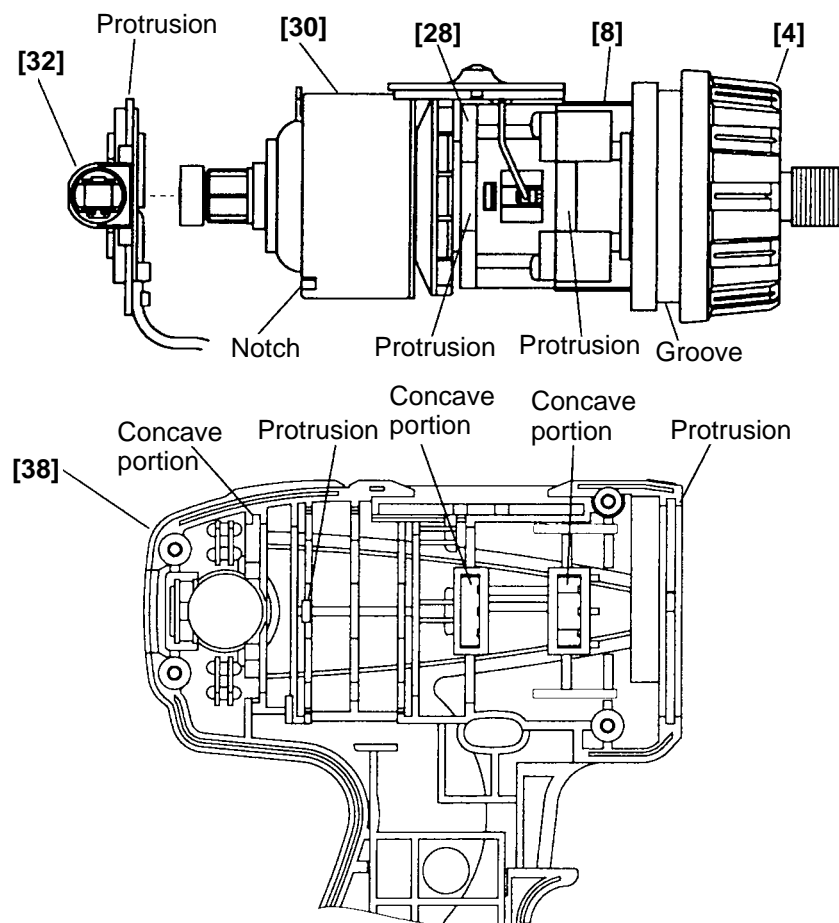

Fig. 13
(7) Reassembly of the main unit
(a) Mount the power supply unit and the drive unit that were reassembled in the above procedure to Housing (A) [38]. At this time, align the protrusions of the Brush Block [32], Front Case [8] and Motor Spacer [28] with the concave portions of Housing (A) [38], the notch of the Magnet [30] with the protrusion of Housing (A) [38], and the groove of the Clutch Dial [4] with the protrusion of Housing (A) [38] (see Fig. 13).